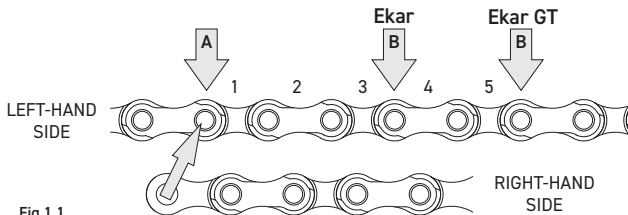

Fig.1.1
If the pins are not perfectly aligned, the length of the chain must be increased until it crosses the right hand pin of the next external link; inasmuch, in the example in Fig 1.1, the correct length is obtained at point A.
- obtain the exact pin when the chain can be shortened (point B Fig. 1.1).